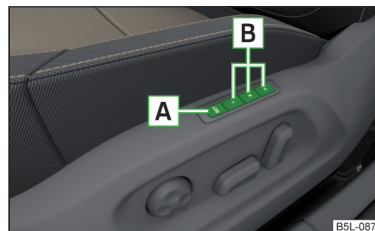

Fig. 57 SET button and memory buttons
Among the memory buttons **B** on the driver's seat, a setting for the driver's seat and exterior mirror position can be saved **» Fig. 57.**
- ▶ Hold down the SET **A** **» Fig. 57** button and within 10 seconds press the desired memory button **B** at the same time. Storing is confirmed by an acoustic signal.
- ▶ Turn on the ignition and press the desired memory button **B** **» Fig. 57.**
- Hold the desired memory button **B** » Fig. 57 .
- Press and hold any memory button **B** » Fig. 57 on page 69.
- Press and hold down the **SET** **A** » Fig. 57 on page 69 button. At the same time, press the  button on the remote control key within 10 seconds. Deactivation is confirmed by an acoustic signal.